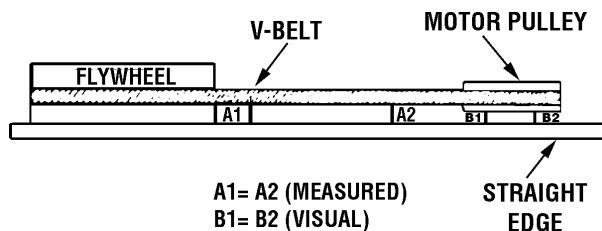

Figure 6 - Pulley and Flywheel Alignment
3. Place a straightedge against the outside of the flywheel and the motor drive pulley. Refer to Figure 6 as required.
4. Measure the distance between the edge of the belt and the straightedge at points A1 and A2 in Figure 6. The difference between measurements should be no more than 1/16".
7. Visually inspect the motor drive pulley to verify that it is perpendicular to the drive motor shaft. Points B1 and B2 of Figure 6 should appear to be equal. If they are not, loosen the setscrew of the motor drive pulley and equalize B1 and B2, using care not to disturb the belt alignment performed in step 2.